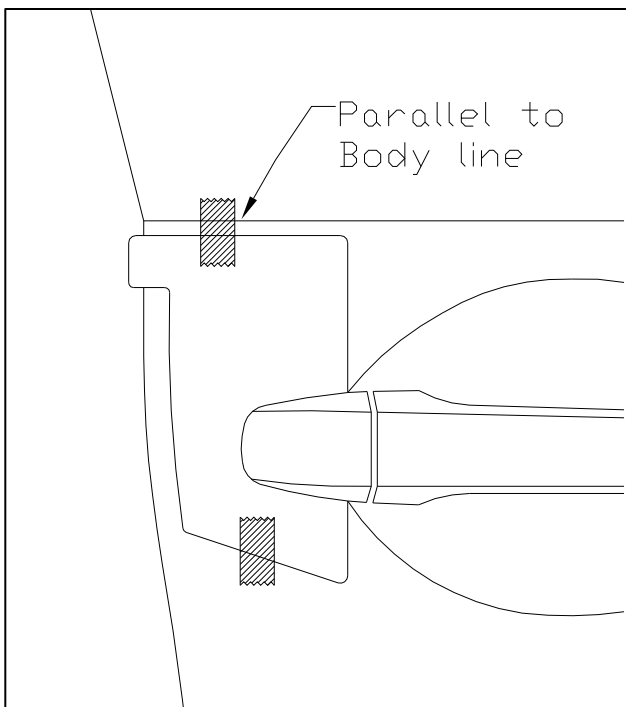

Fig. 1-9
- (k) Select front door template and fit notch around door handle. Adjust as needed to ensure it is parallel to body line directly above the template. If needed, tape into place using painter's masking tape. (Fig 1-9)